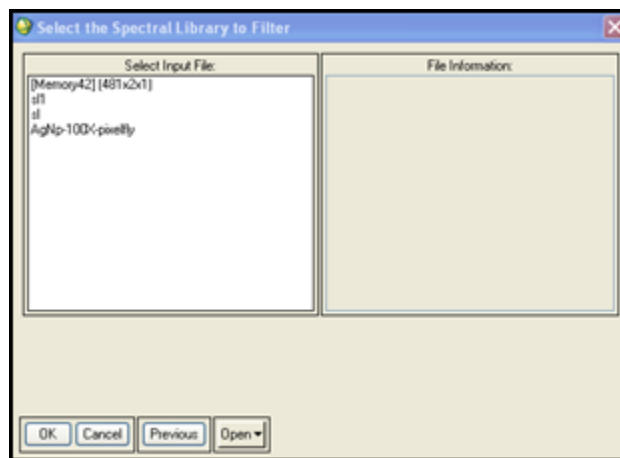

Figure 9.1b: Spectral Library to Filter Box
- Select the Spectral Library to Filter dialogue box opens. The user selects a spectral library file from the input list or opens a new one from this window using the Open tab (Figure 9.1b). This file should contain all of the spectra from the analysis, including both the desired and undesired spectral curves.
- This example will remove two spectra, deemed undesirable from a spectral library. Once the Select the Spectral Library to Filter dialogue box is open, select the file sl. If the input file isn't in the list click open and then select the file. The input file sl contains four spectra (Figure 9.1b), located in the ENVI 4.8 Examples folder. Click OK.